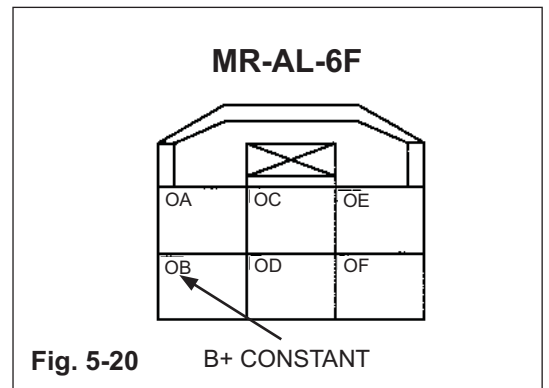

Fig. 5-20
- a) Locate the **Orange / Blue-Striped** wire in pin **OB** of the 6-pin connector. (Fig. 5-20)